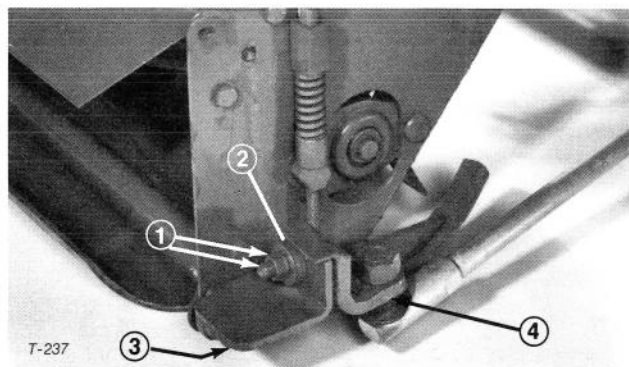

Figure 35
4. Insert a shim between the hanger and support on each side of the cutting unit (Fig. 35).